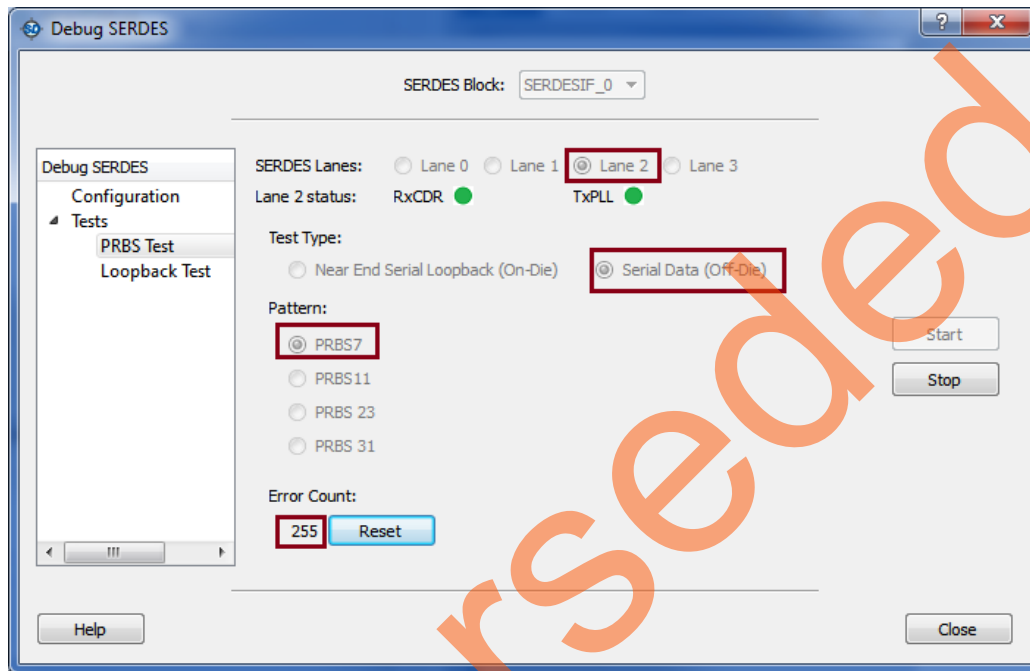

Figure 35 • Lane 2 Transmitting Data Off-Board
7. The Lane 2 SMA test connections can be used for interconnecting with high-speed coaxial cables to test equipment or other test fixtures like test backplanes. In the example shown in Figure 35, when the Lane 2 test is started without any means to connect the Tx and Rx together, the Error Count increments as the link is broken between the pattern generator and the checker. This setup sends a data pattern of the board for analysis on the test equipment.